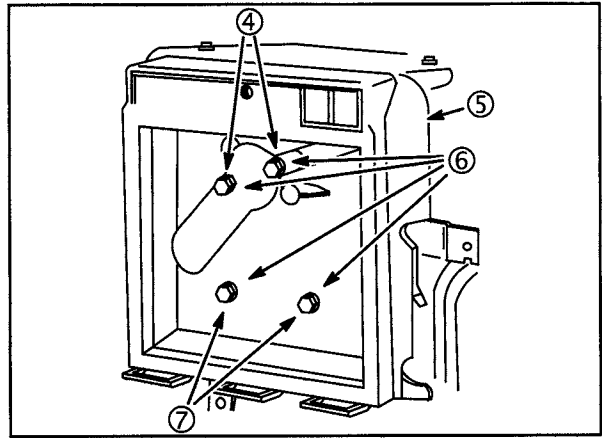

Fig. 2
**Early style: (Square cartridge), Fig. 2.**
2. Remove four screws (6), lock washers (4) and flat washers (7).
3. Remove air cleaner base (5) and breather tube.